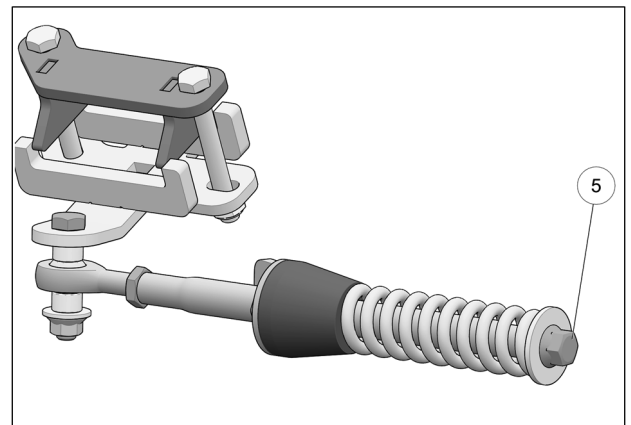

Fig. 18
- Verify that spring assembly bolt (5) is tightened to the recommended torque specification: 75 Nm [55 lb-ft]. Refer to Fig. 18